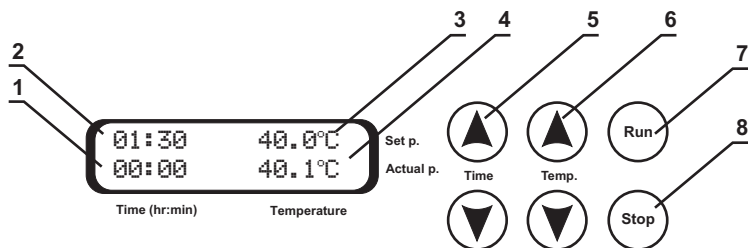

Fig.2 Control panel
- 4.4. *Temperature setting.* Use the ▲ and ▼ **Temp.** buttons (Fig.2/6) to set the necessary temperature, using as a guide the set temperature readouts shown in the first line of the display (Fig.2/3) (when the button is pressed down for longer time the increment becomes bigger).
- 4.5. The thermostat starts heating and the current temperature is displayed in the second line of the display (Fig.2/4).
- 4.8. Use the ▲ and ▼ **Time** buttons (Fig.2/5) to set the necessary time in hours and minutes (hr:min), using as a guide the set time readouts shown in the first line of the display (Fig.2/2) (when the button is pressed down for longer time the increment becomes bigger).
- 4.9. Press **Run** button (Fig.2/7) to start the timer. The elapsed time is indicated in the second line of the display (Fig.2/1).
After the set time is reached the timer gives a sound signal and the blinking indication *STOP* is shown on the display. Press **Stop** button (Fig.2/8) to stop the signal.